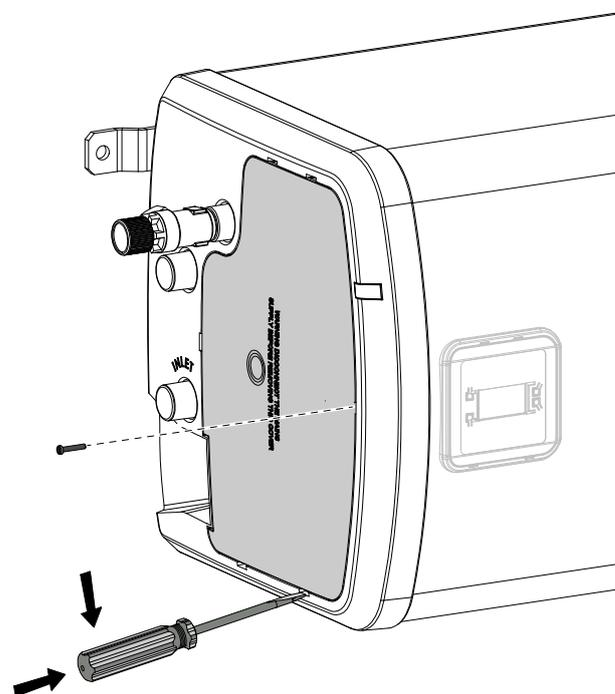

Figure 10: Cover Removal
heater housing . Remove the securing screw then release the cover by carefully inserting a flat bladed screwdriver into the slots around the cover and gently levering outwards until the catches release (see figure 10 page, 25).
- ▶ Open the cover to the immersion heater housing. Remove the securing screw then release the cover by carefully inserting a flat bladed screwdriver into the slots around the cover and gently levering outwards until the catches release (see Figure 10, page 25).